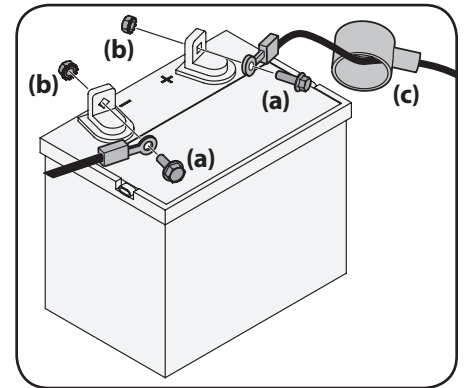

Figure 2-8
- Remove the plastic cover, if present, from the positive battery terminal and attach the red cable to the positive battery terminal (+) with the bolt (a) and hex nut (b). See Figure 2-8.
- Remove the plastic cover, if present, from the negative battery terminal and attach the black cable to the negative battery terminal (-) with the bolt (a) and hex nut (b). See Figure 2-8.